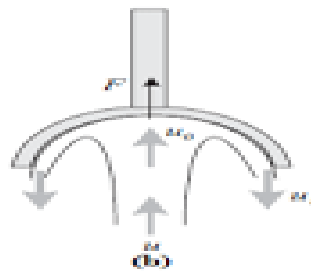

Fig. 7 Impact of Jet on vanes
8.1 Determine the reaction forces produced by the change in momentum of a fluid flow when a jet of water strikes a curved Stationary and moving surfaces as shown in Fig. 7
8.2 Determining the reaction forces generated by the change in momentum when a jet of water strikes a curved surface fig.7